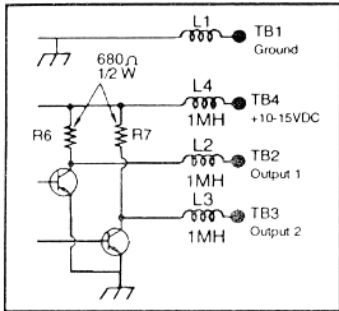
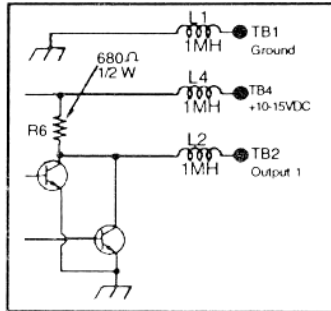
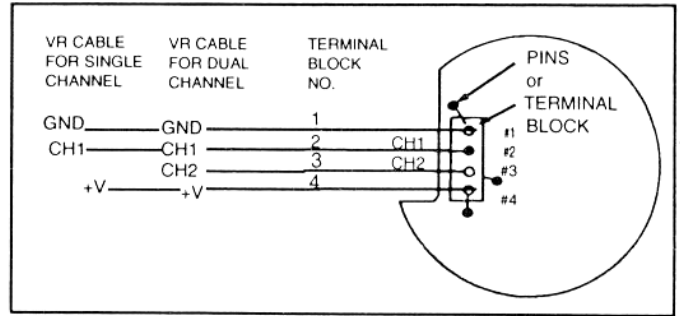

Figure 4. Wiring Connections for Dual Output Models.
Figure 5. Wiring Connections for Single Output Models.
Figure 6. Terminal Block Circuit Connections.
**C. WIRING.** See Figure 4 for output and operating voltage connections for Dual Output Models. See Figure 5 for output and operating voltage connections for Single Output Models. See Figure 6 for terminal block circuit connections.